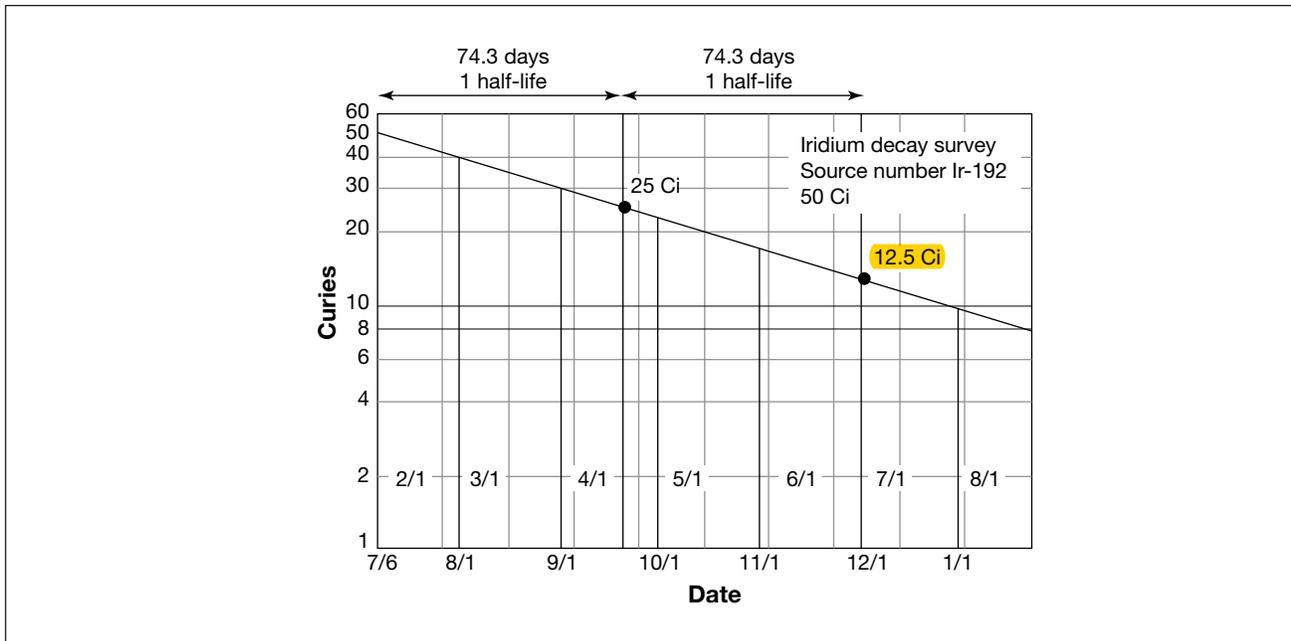

Figure 4: Sample dated decay curve.
18	In Figure 4, the second instance of iridium in the sample dated decay curve should be 12.5 Ci.
3. Dated decay curves, as shown in Figure 4 for Ir-192, are supplied when a radioisotope is obtained.